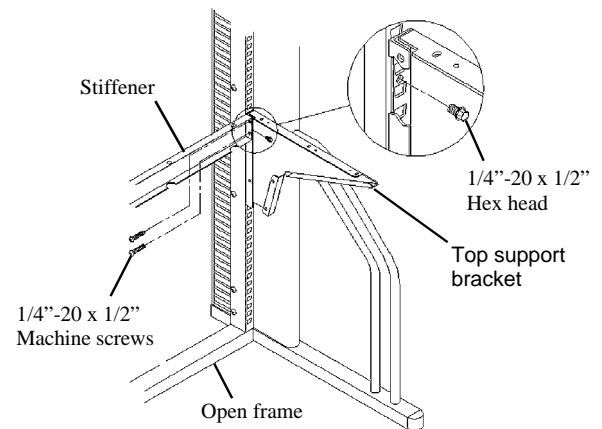

Figure 2
3. Locate the small hole inside the back of the Top Support Bracket and insert the 1/4"-20 x 1/2" Hex head screw with a 3/8" socket. See **Figure 2**.
4. For Worksurfaces that are longer than 60" in length, a **Stiffener** needs to be installed. Position the Stiffener as shown in **Figure 2**. Attach the Stiffener to the Hook-on Top Support Brackets using the 1/4"-20 x 1/2" Machine screws.